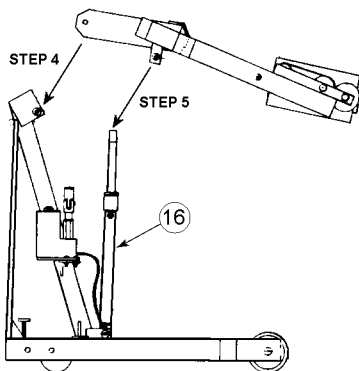

Figure 3
Step #4: Lift overhead assembly into position. A drift pin can help align the holes. Insert a greased clevis pin (item 12) through mast cap and boom. Install a 5/8" washer (item 9) and 3/16" roll pin (item 8) in the end of the clevis pin. See figure 3.